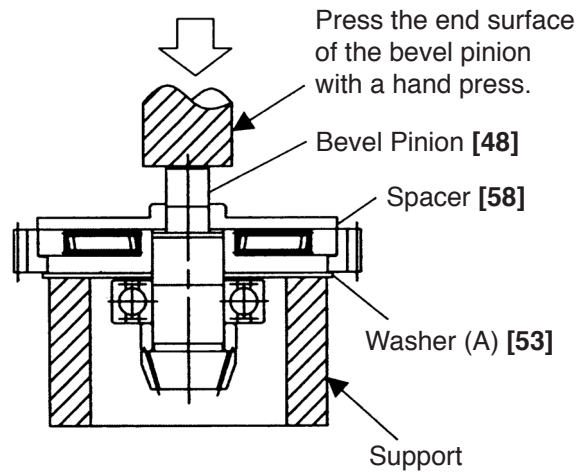

Fig. 20
Remove the Ball Bearing 629VVC2PS2L [59] with a bearing puller. Place the assembly on a sleeve-type support facing Washer (A) [53] downward as shown in Fig. 20. Push the Spacer [58] side of the Bevel Pinion [48] with a hand press to remove the Gear Holder [54] and the Spacer [58] from the Bevel Pinion [48]. Before removal of the Second Gear [57] from the Gear Holder [54], put the assembly in a poly bag and disassemble it inside the poly bag to prevent missing of Spring (C) [55] and the Needle [56].